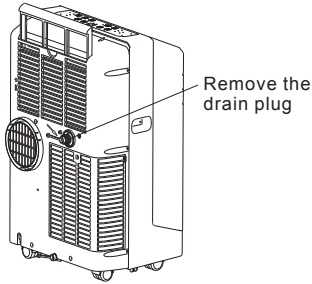

Fig.23
- During dehumidifying modes, remove the drain plug from the back of the unit; install the drain connector (5/8" universal female mender) with 3/4" hose (not included). For the models without drain connector, just attach the drain hose to the hole. Place the open end of the hose directly over the drain area in your basement floor. Please refer to Fig. 23 & 24.
- Remove the rubber plug at the back of the unit and attach a hose to drain outlet. Place the open end of the hose directly over the drain area in your basement floor (See Fig.23 & 24).